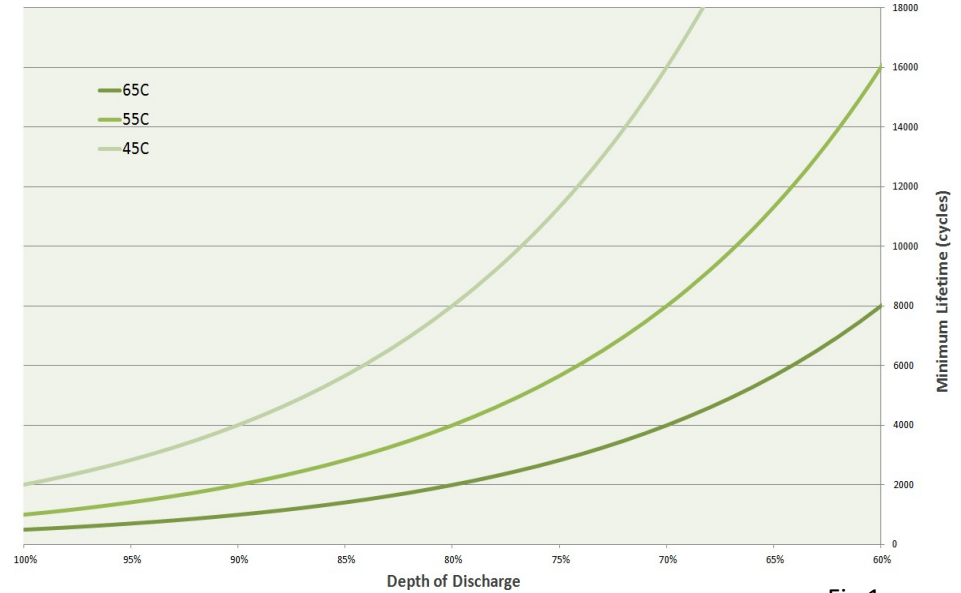

Fig.1
\*\*Depends on DoD, see Figure 1: Minimum Lifetime vs. Depth of Discharge
The increasing integration of distributed renewable energy has increased stress on the power grid. By their very nature, photovoltaic (PV) energy fluctuates dramatically with weather. This fluctuating power output from these renewable sources can cause line regulators, tap changers, and switched capacitors to switch much faster than before. PV and inverter instabilities can also contribute to transients, harmonics, and instability in the distribution system. For example, if a PV string was generating 100 kW and a cloud passed over the array, this power could drop to under 50kW in less than 30 seconds. This can be very disruptive to the stability of the grid. Adding energy storage to an existing PV system is one way to reduce these harmful effects. As can be seen above in figure 1, the Pacific Energy system can be added on to existing systems. The energy storage can buffer the output of the PV, reducing weather anomalies. The energy storage can also be used to level peaks in demand, create custom daily power outputs, and optimize the time at which the solar energy is sold for maximum profit.